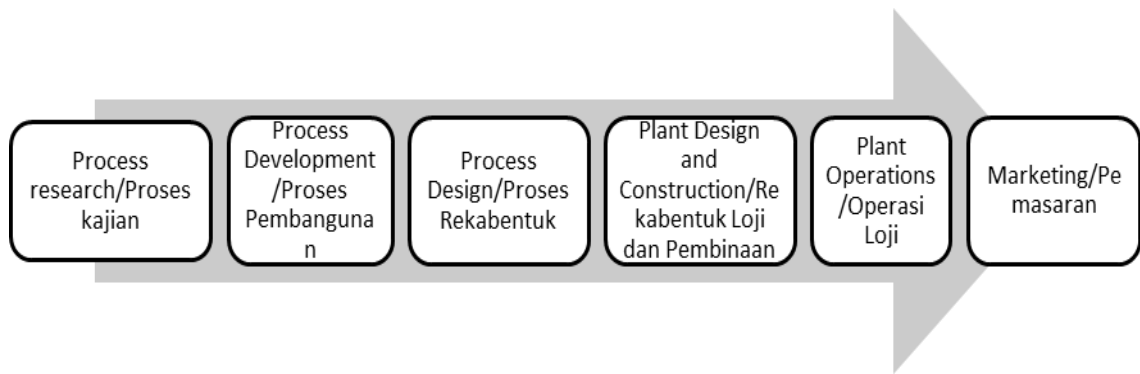

Figure 4: Structure of a project
- (5). (a). **Figure 4** shows structure of a project in conceptual design. Describe what is conceptual design. State when Phase 0 and Phase 1 should take place and list at least **THREE (3)** criteria for both phases.